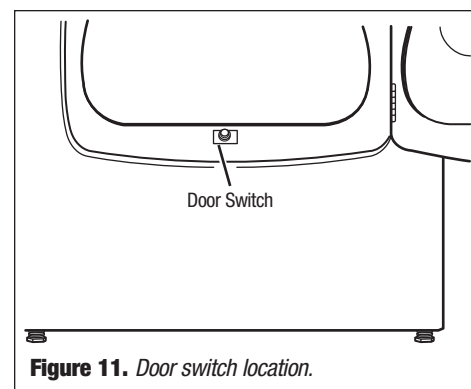

Figure 11. Door switch location.
- Check that the wires between the door switch and machine control electronics are connected. See figure 11 for switch location and see Removing the Front Panel/Drum Assembly, page 8.